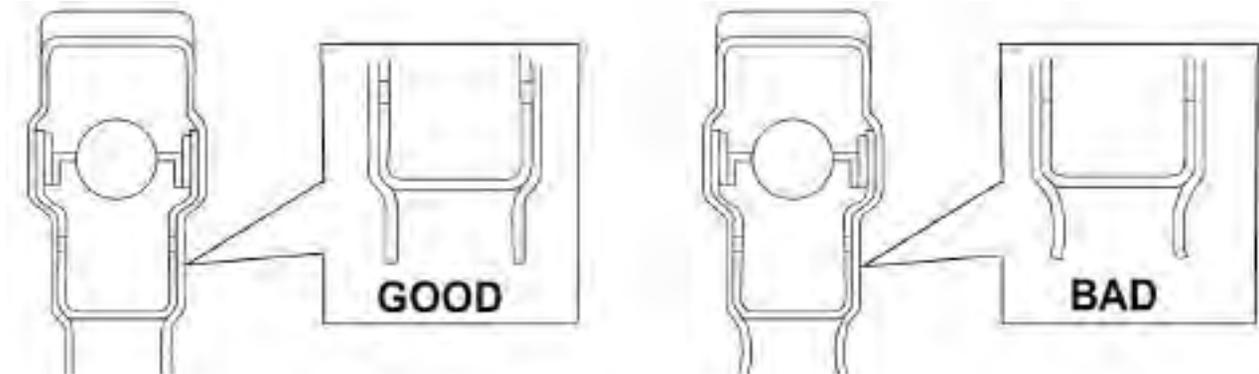

Figure 6. Bent or Damaged Flanges.
- a. Inspect for bent or damaged pivot/trigger mechanism flanges (Figure 6) on bottom rear of receiver, both sides.